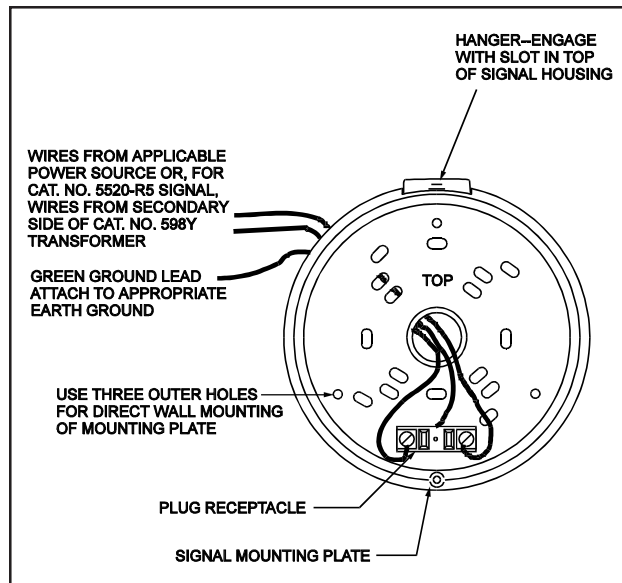

Figure 3. Mounting Plate Details
Fasten mounting plate to wall by installing the three #8 x 1 1/4" (32 mm) wood screws, supplied with the signal, through the appropriate holes in mounting plate as shown in Figure 3.
5. Connect wires from power source or transformer to the terminals of the plug receptacle on the mounting plate as shown in Figure 3.
6. Hook signal on mounting plate by engaging hanger on plate into slot in top of signal housing (Figure 3). Press signal flush to mounting plate to mate plug in rear of signal housing with plug receptacle on mounting plate. Tighten screw, loosened in step 1, to secure signal to plate.
7. Connect wire leads from resistor bracket assembly to the terminals of the plug receptacle on the mounting plate (Figure 3).